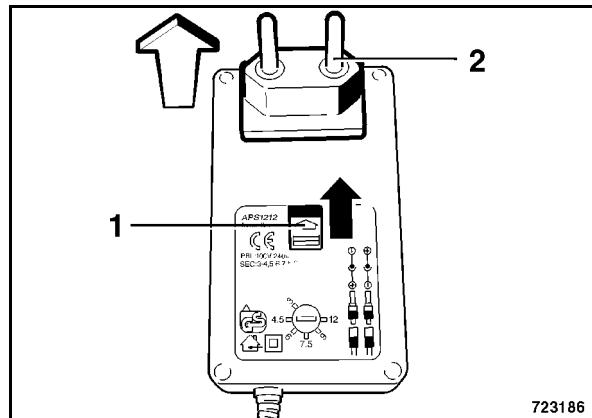

Fig. 73
- Push lock 1 (Fig. 73) on the mains unit of the battery charger forward and pull plug (2) upward out of the mains unit.